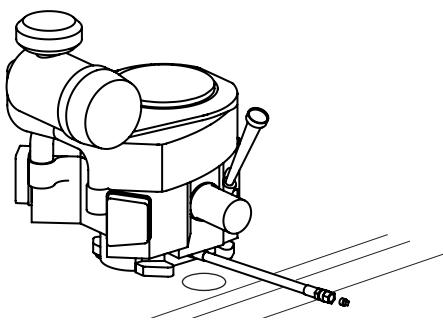

Figure 18
- Locate the oil drain hose on the engine. See Figure 18.
- While holding the free end of the oil drain hose over the oil collection container, unscrew the square-head hose plug from the end of the hose. See Figure 18. Drain the engine oil into the collection container.